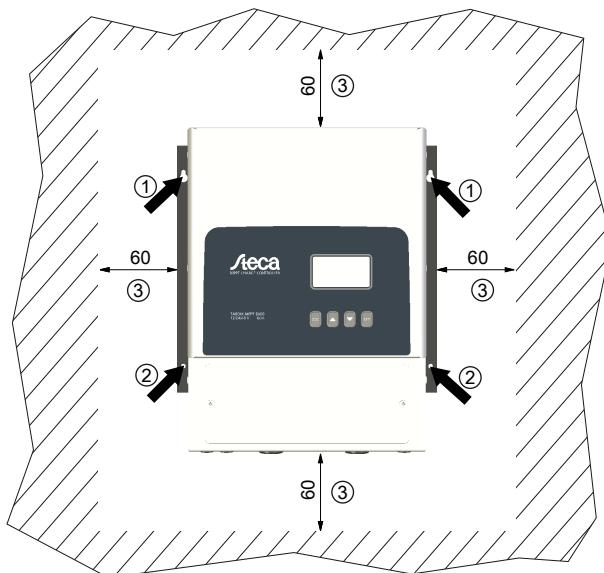

Fig. 2: Fastening openings ①/② and free space ③
- A free space of at least 60 mm must be present on all sides of the controller (③ in Fig. 2, p. 15).
- Do not drill through the fastening openings ①/② (Fig. 2).
2. ➤ Position the controller level on the mounting surface and mark the mounting holes through the fastening openings ①/②.